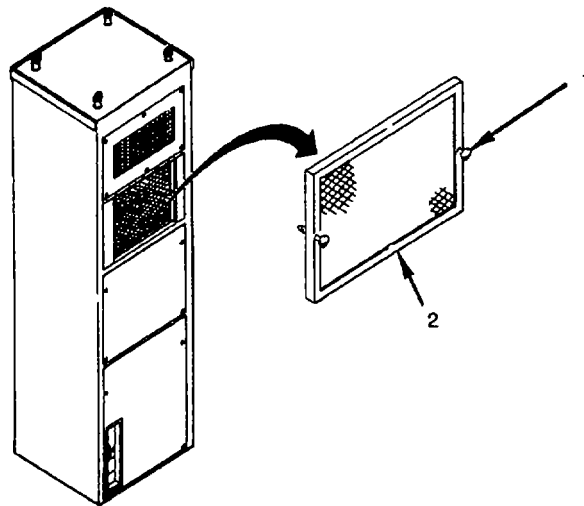

Figure 4-5. Return Air Filter Removal
4.10.4 Return Air Filter. Loosen two captive fasteners (1) and remove filter (2) (see fig 4-5).